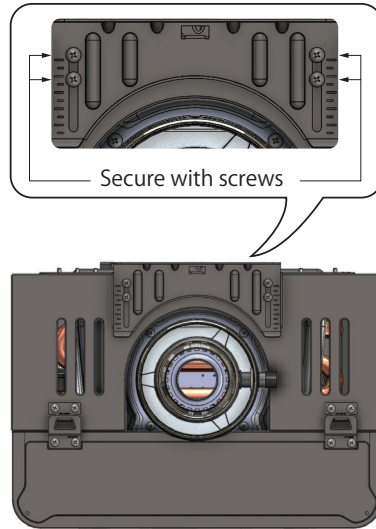

Figure 8 - Verify Bracket is Secured with Screws
**IMPORTANT:** The brackets are extendable up to 1.16" and **MUST** be secured with the two screws provided on each side. See Figure 8.